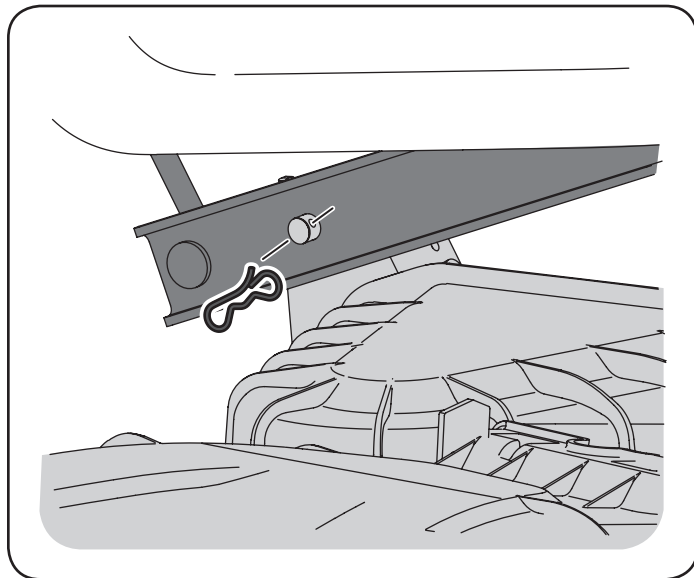

Figure 21
6. Looking at the cutting deck from the left side of the tractor, locate the bow-tie pin on the rear left side of the deck. See Figure 21.
7. Remove the bow pin and slide the deck pin out of the deck lift arm. See Figure 21.